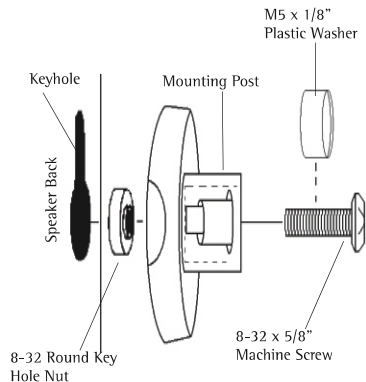

Figure 4
- Loosely pre-assemble the mounting post with the 8-32 x 5/8" machine screw and key hole nut (Figure 4).
- Put tension on the assembly by gently pulling back on the speaker mount post while tightening the 8-32 x 5/8" machine screw (Figure 4).
- If the post does not tighten securely against the housing, it will be necessary to use the M5 x 1/8" plastic washer as a spacer under the head of the 8-32 x 5/8" machine screw (Figure 4).